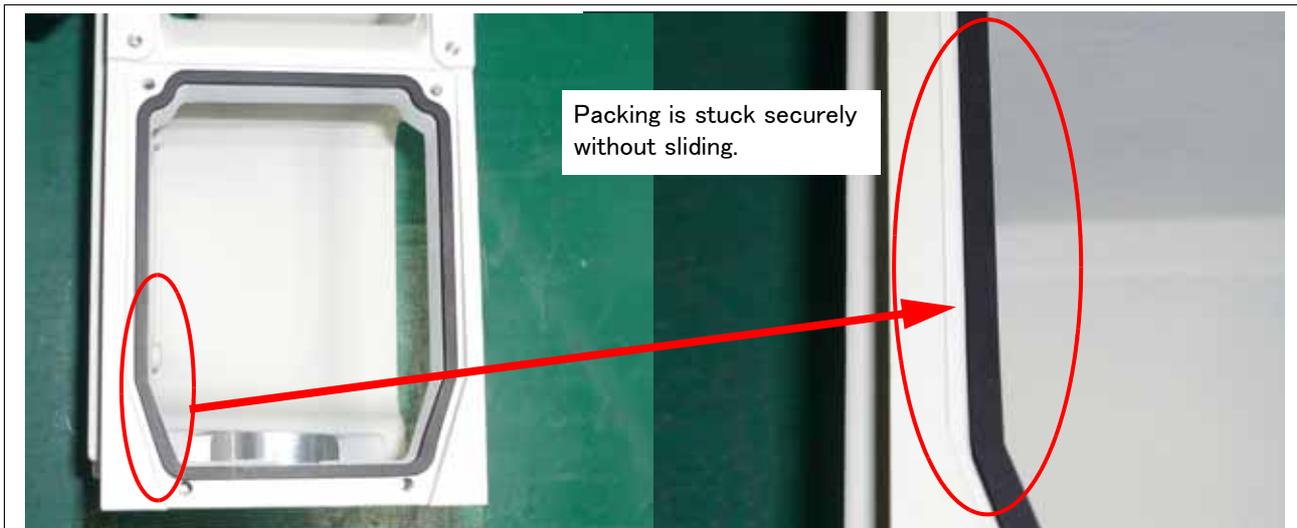
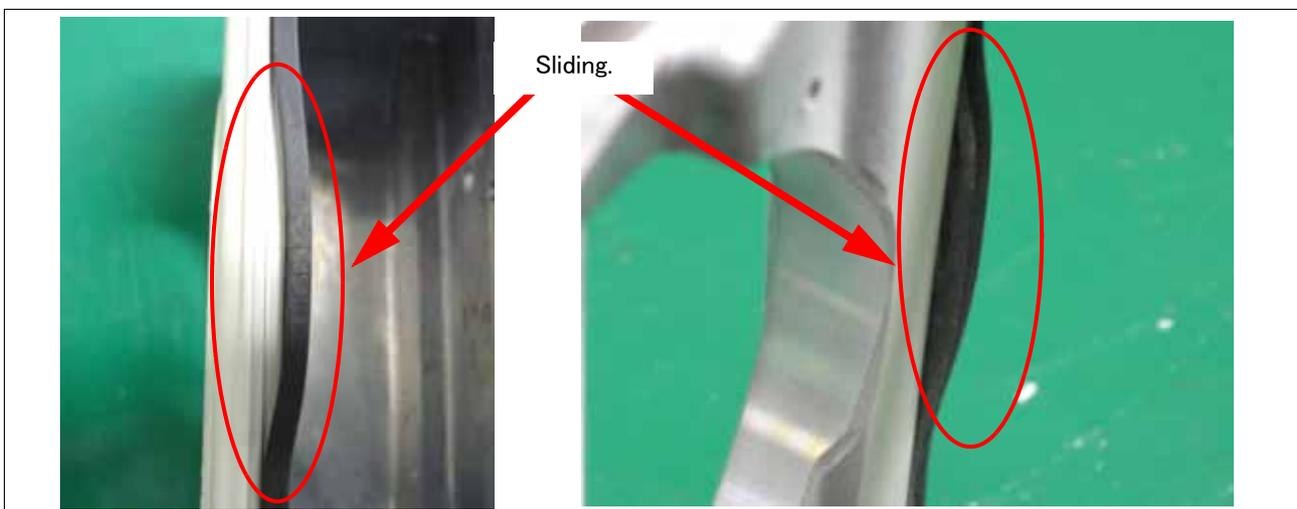

Fig.5-4 : Example of sticking packing (good example)
Fig.5-5 : Example of sticking packing (bad example)
- 2) The sticking surface of packing is double-coated adhesive tape. Referring to "Fig.5-4 : Example of sticking packing (good example)" and "Fig.5-6 : Sticking the cord-like packing", and stick the packing in line with form. Be careful for the packing not to slide. The example of unsuitable packing slid is shown in "Fig.5-5 : Example of sticking packing (bad example)".